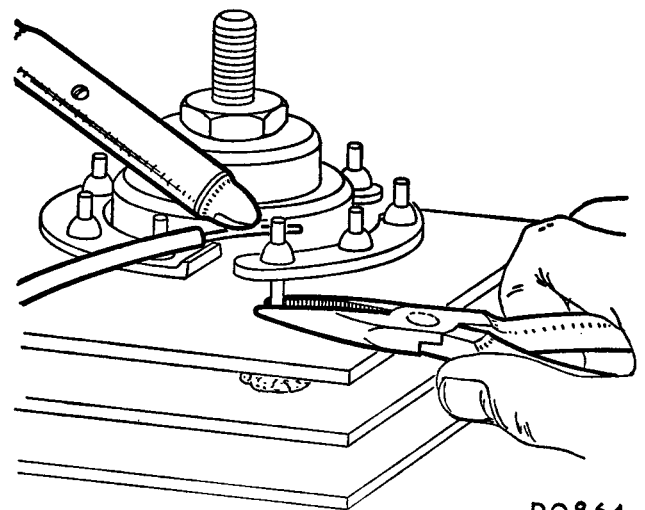

Fig. Nb.15
21. Unscrew the cover retaining screws and remove the cover if this has not already been done in item 16.
**IMPORTANT.**—When soldering or unsoldering connections to the diodes great care must be taken not to overheat the diodes or bend the pins. During the soldering operations the diode pins should be gripped lightly with a pair of long-nosed pliers which will then act as a thermal shunt, see Fig. Nb.15.